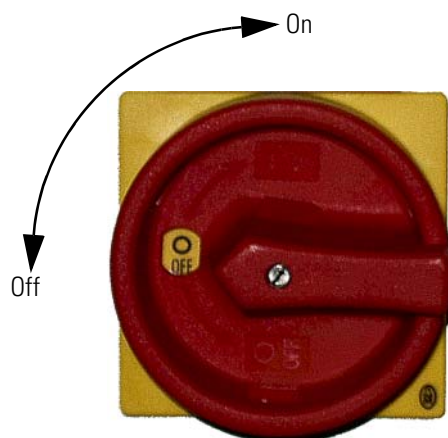

Figure 2-1. Main power switch in Off position
If you need to turn off the MS detector in an emergency, place the main power switch (located on the power panel at the right side of the LTQ Orbitrap Velos) in the Off (0) position. This turns off all power to the instrument, including the linear ion trap, multiple socket outlets, and the vacuum pumps. The main power switch must be turned 90° anti-clockwise to switch off the instrument. See Figure 2-1.